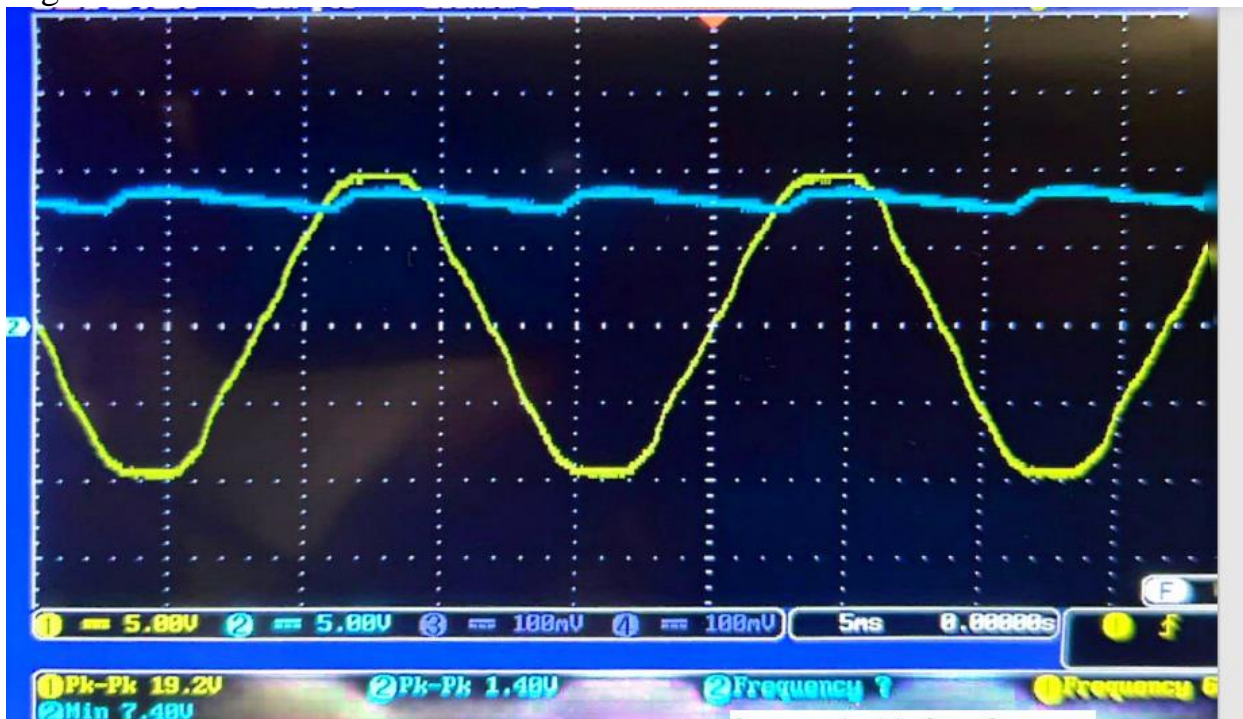
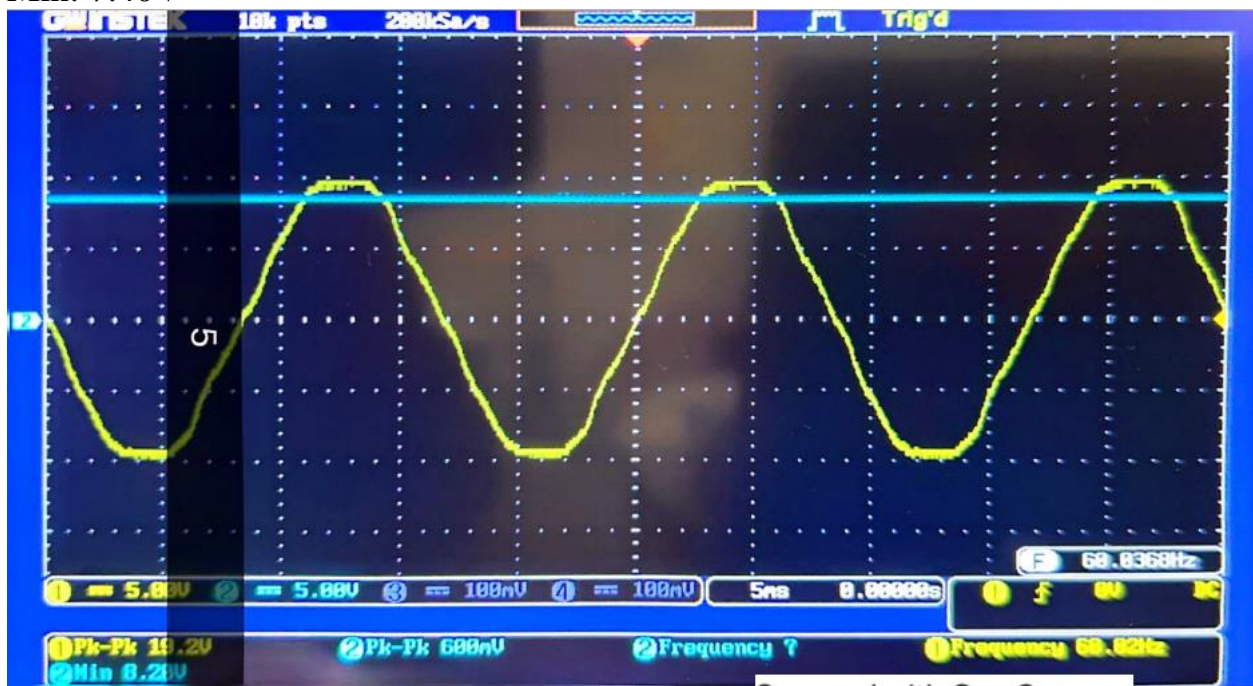

Figure 4:
Figure 5:
Figure 4: The output has a pk-pk value of just 1.4V and a min value of 7.4V, indicating a filtered signal. The significant drop in the pk-pk value compared to the input suggests strong filtering action, likely smoothing out the waveform.
Figure 5: Here, we observe that the output has become a DC waveform with a pk of 600mV and a min of 8.28V. This could indicate a very well-filtered signal, approaching DC characteristics.
**Effect of Filtering:** With filtering, the ripple voltage was significantly reduced, as seen in the change from Figure 4 to Figure 5.